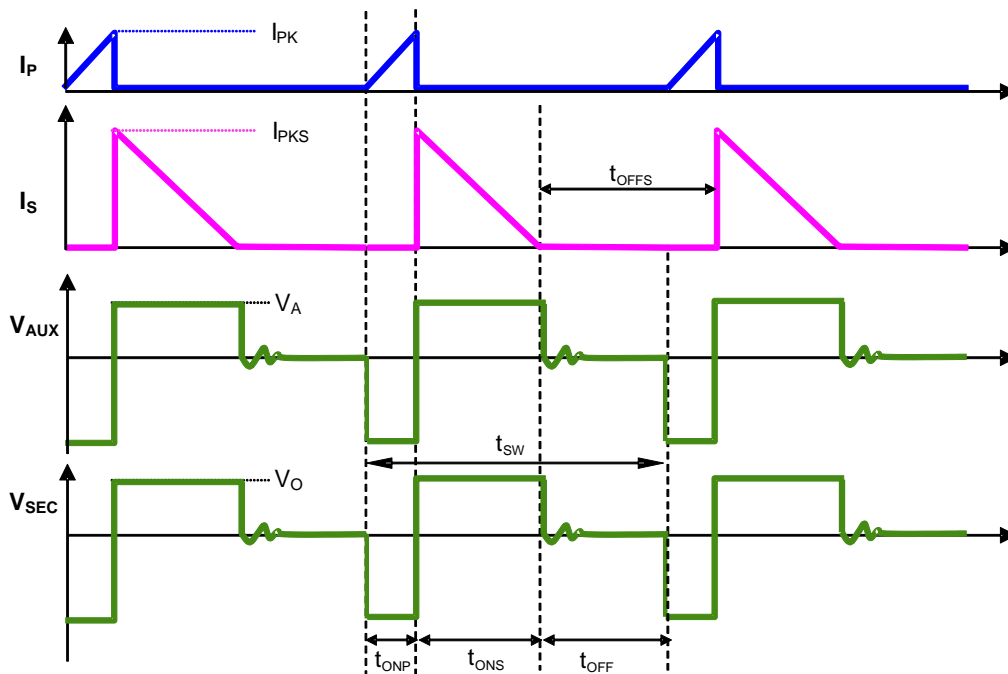

Figure 2. The Operation Waveform of Flyback PSR System
Figure 2 shows the typical waveforms which demonstrate the basic operating principle of AP3783R application. And the parameters are defined as following.
As illustrated in Figure 2, when the current  $i_p(t)$  rises up to  $I_{PK}$ , the switch Q1 turns off. The constant peak current is given by:
The AP3783R can work in constant-current (CC) mode. Figure 2 shows the secondary current waveforms.